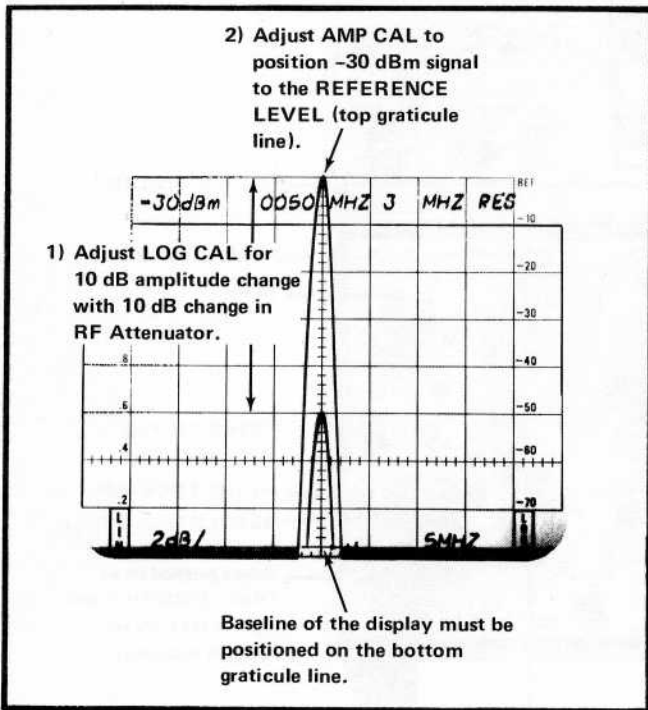

Fig. 2-4. Calibrating the LOG and REFERENCE LEVEL. (Double exposure to illustrate the relationship of the two displays.)
d. Adjust the AMPL CAL and the LOG CAL (if necessary) to bring the 50 MHz signal within the graticule window. Adjust the AMPL CAL to establish a signal reference amplitude of 8 divisions (Fig. 2-4 shows a full screen display).
h. Repeat these steps until the 2 dB/DIV display is calibrated (see Fig. 2-4), then return the RF Attenuator to 0 dB (REFERENCE LEVEL -30 dBm). Ensure that the -30 dBm signal is 8 divisions in amplitude.